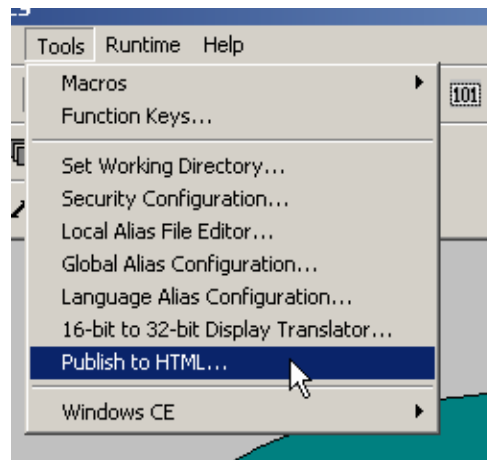

Figure 4.2. Starting the Web Publishing Wizard in GraphWorX
3. Select **Publish to HTML** from the **Tools** menu, as shown in **Figure 4.2**.